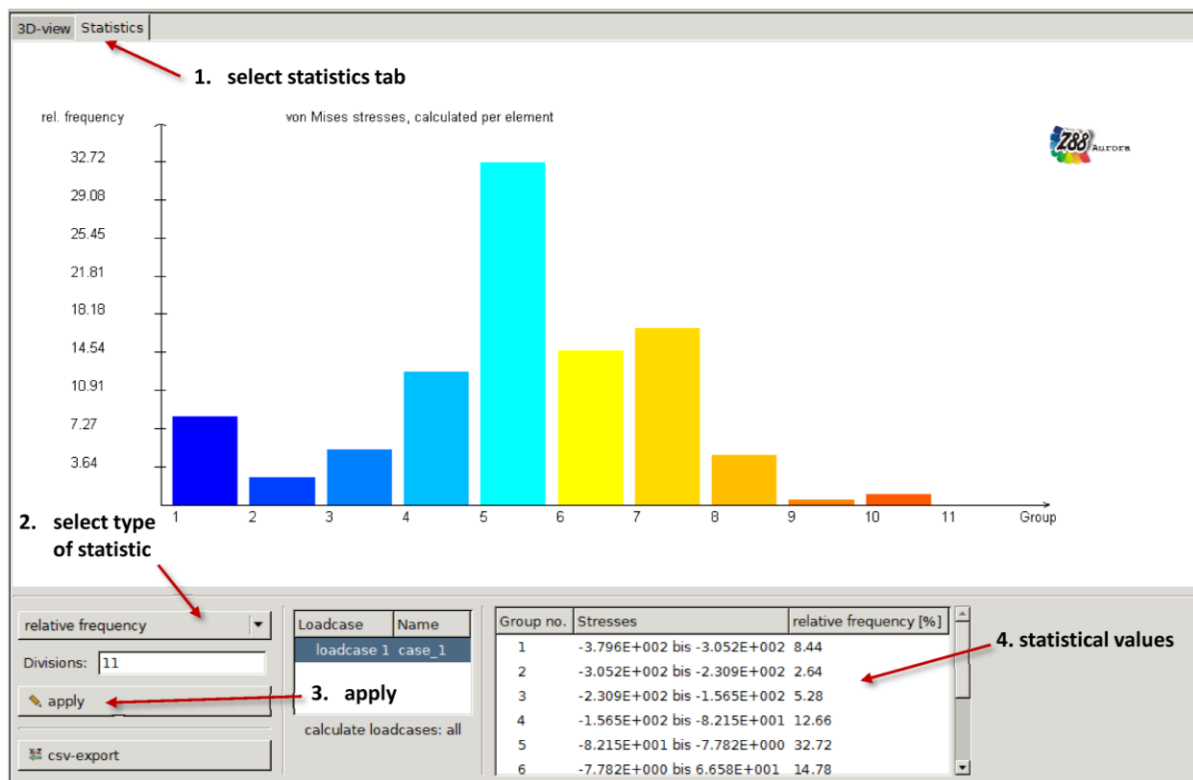

Figure 6: The statistics tab
In addition, Z88 Aurora has an integrated module for statistical evaluation, which can be selected using the tab above the viewport (Figure 6). To use it, select one of the results displaying stress values and select the tab *Statistics*. Either relative or absolute frequencies of the corresponding stress intervals can be selected. If you use the standard value for intervals (11), the colours used in the statistics tab are the same as in the 3D viewport. If you want to save the values for further use in a spreadsheet, use the  csv-Export option and insert an appropriate filename.